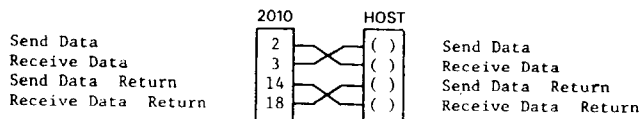

Figure 5-3. RS422 Half/Full Duplex Without Handshake
5.5 RS422 INTERFACE (See Figures 5-3 and 5-4.)